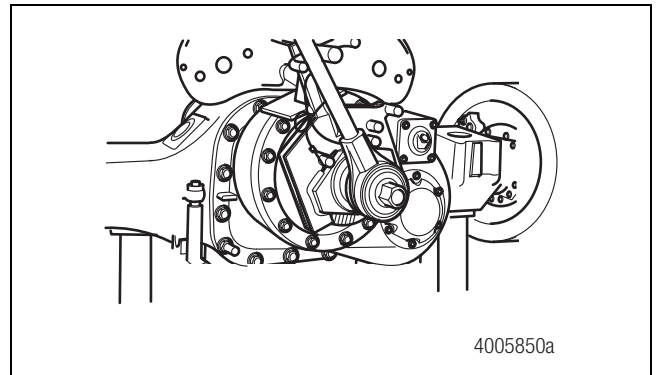

Figure 7.3
4. Use an appropriate torque multiplier to remove the flange nut. Discard the nut. Figure 7.3.